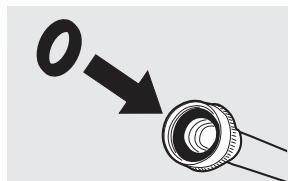

Fig. 2
- Check to ensure the inlet hoses have the rubber washer firmly in place. (Fig. 2).